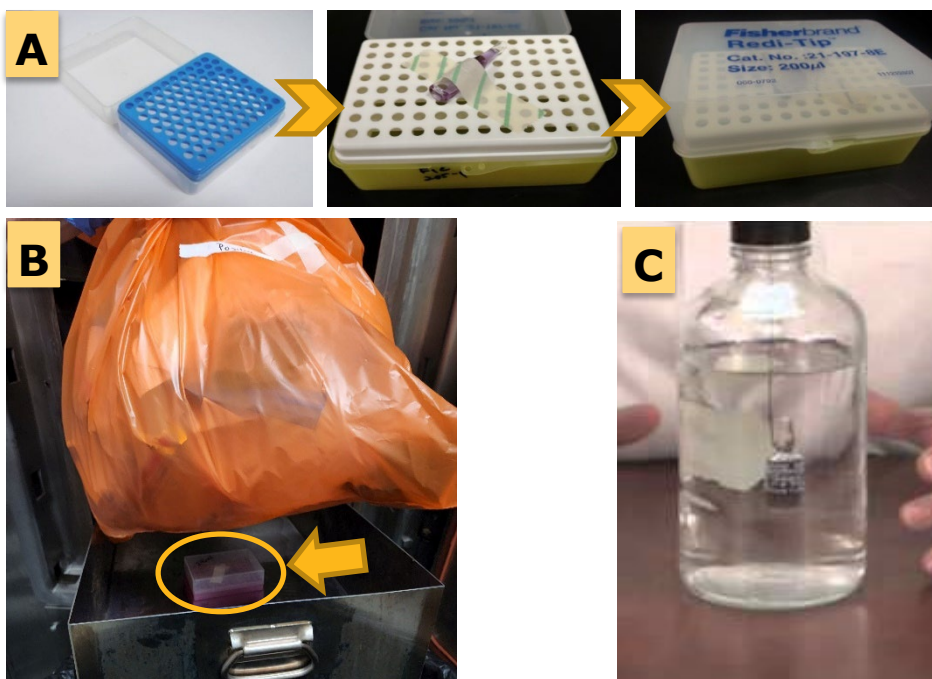

Figure 1 Biological Indicator prep and placement for standard autoclaves.
- 2.4 **For plant material and soil in bags**, use either method 2.1 or 2.3 outlined above and shown in Figures 1 and 2.